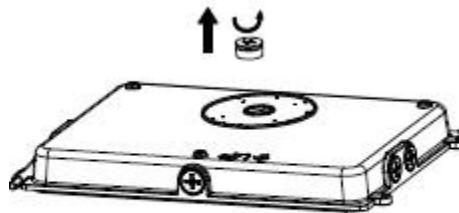

Fig5
Step 3. Feed the wires through the 1/2" knockout (Fig5) and install the rear housing.